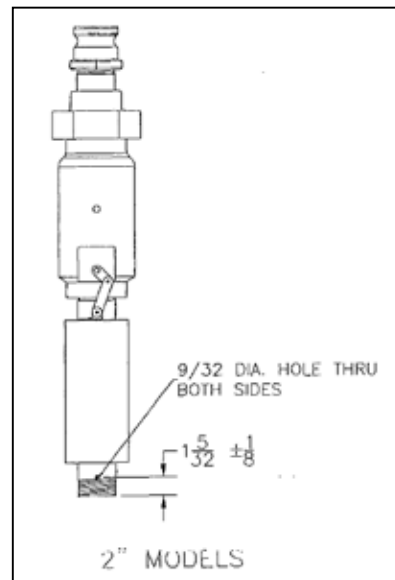

Figure 1: 2" Models
1. Check to see if the lower nipple of the 61fSTOP has the drop tube mounting holes. On some older models it may be necessary to drill these holes into the nipple. If this is the case, see the illustration below for the appropriate size of drop tube for your application. (See Figures 1 & 2)